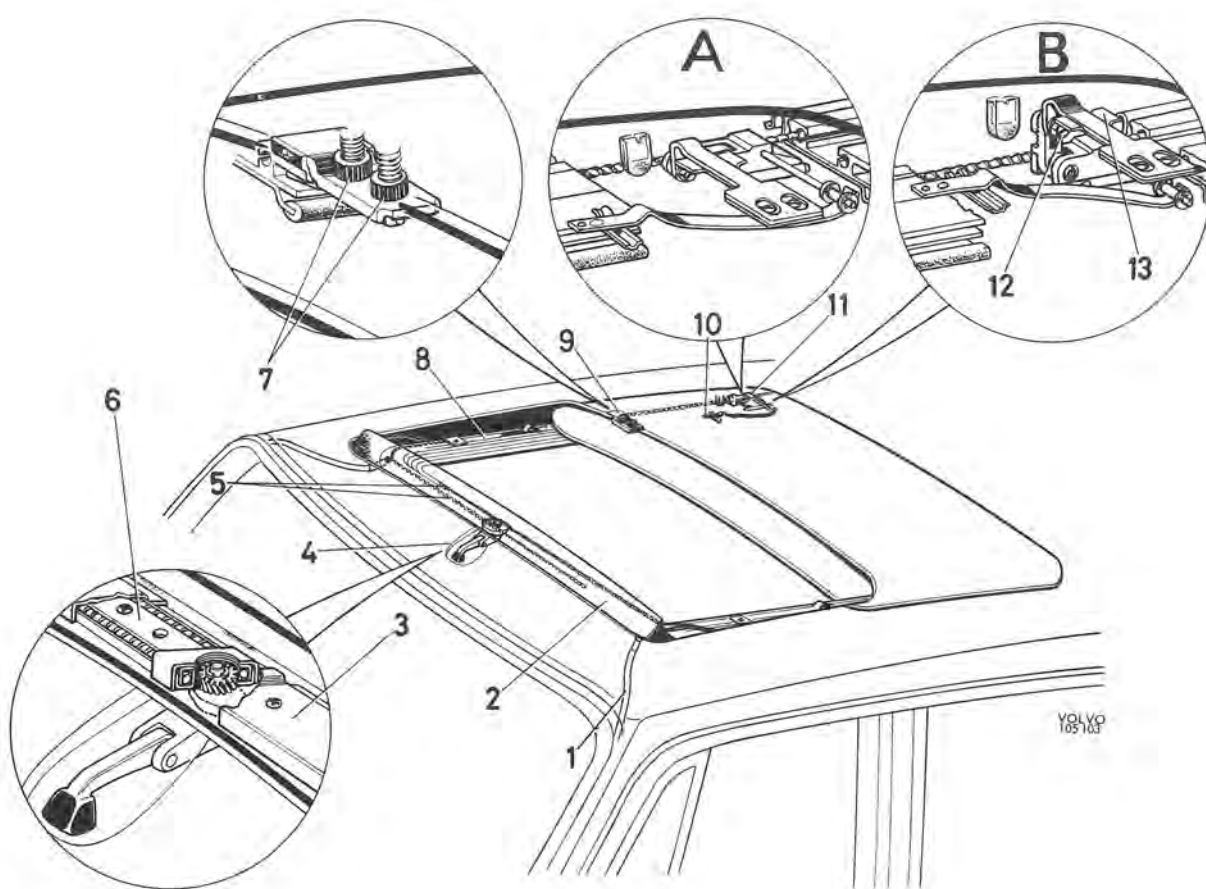

Fig. 8-22. Sun-roof
2. Crank the sun-roof forwards and slacken the screws at its four attachments (9 and 11, Fig. 8-22). Bend the blade springs (10) to the one side and remove the reinforcing plates (13) at the rear attachments. Lift off the sun-roof.
3. Remove the wind deflector (2).
4. Remove the intermediate pieces (8), covering strip (3) and holders above the drive. Release the front guide rails (6) and pull out the cables (5).